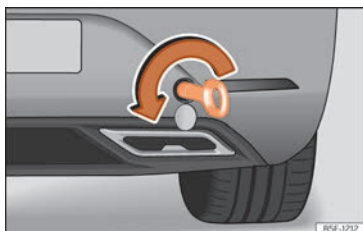

Fig. 54 On the right side of the rear bumper: towline anchorage in position.
- Screw the towline anchorage into the housing by turning it as far as it will go **anticlockwise** » **Fig. 54** » **!**. Use a suitable object that can completely and securely tighten the towing eye in its housing.